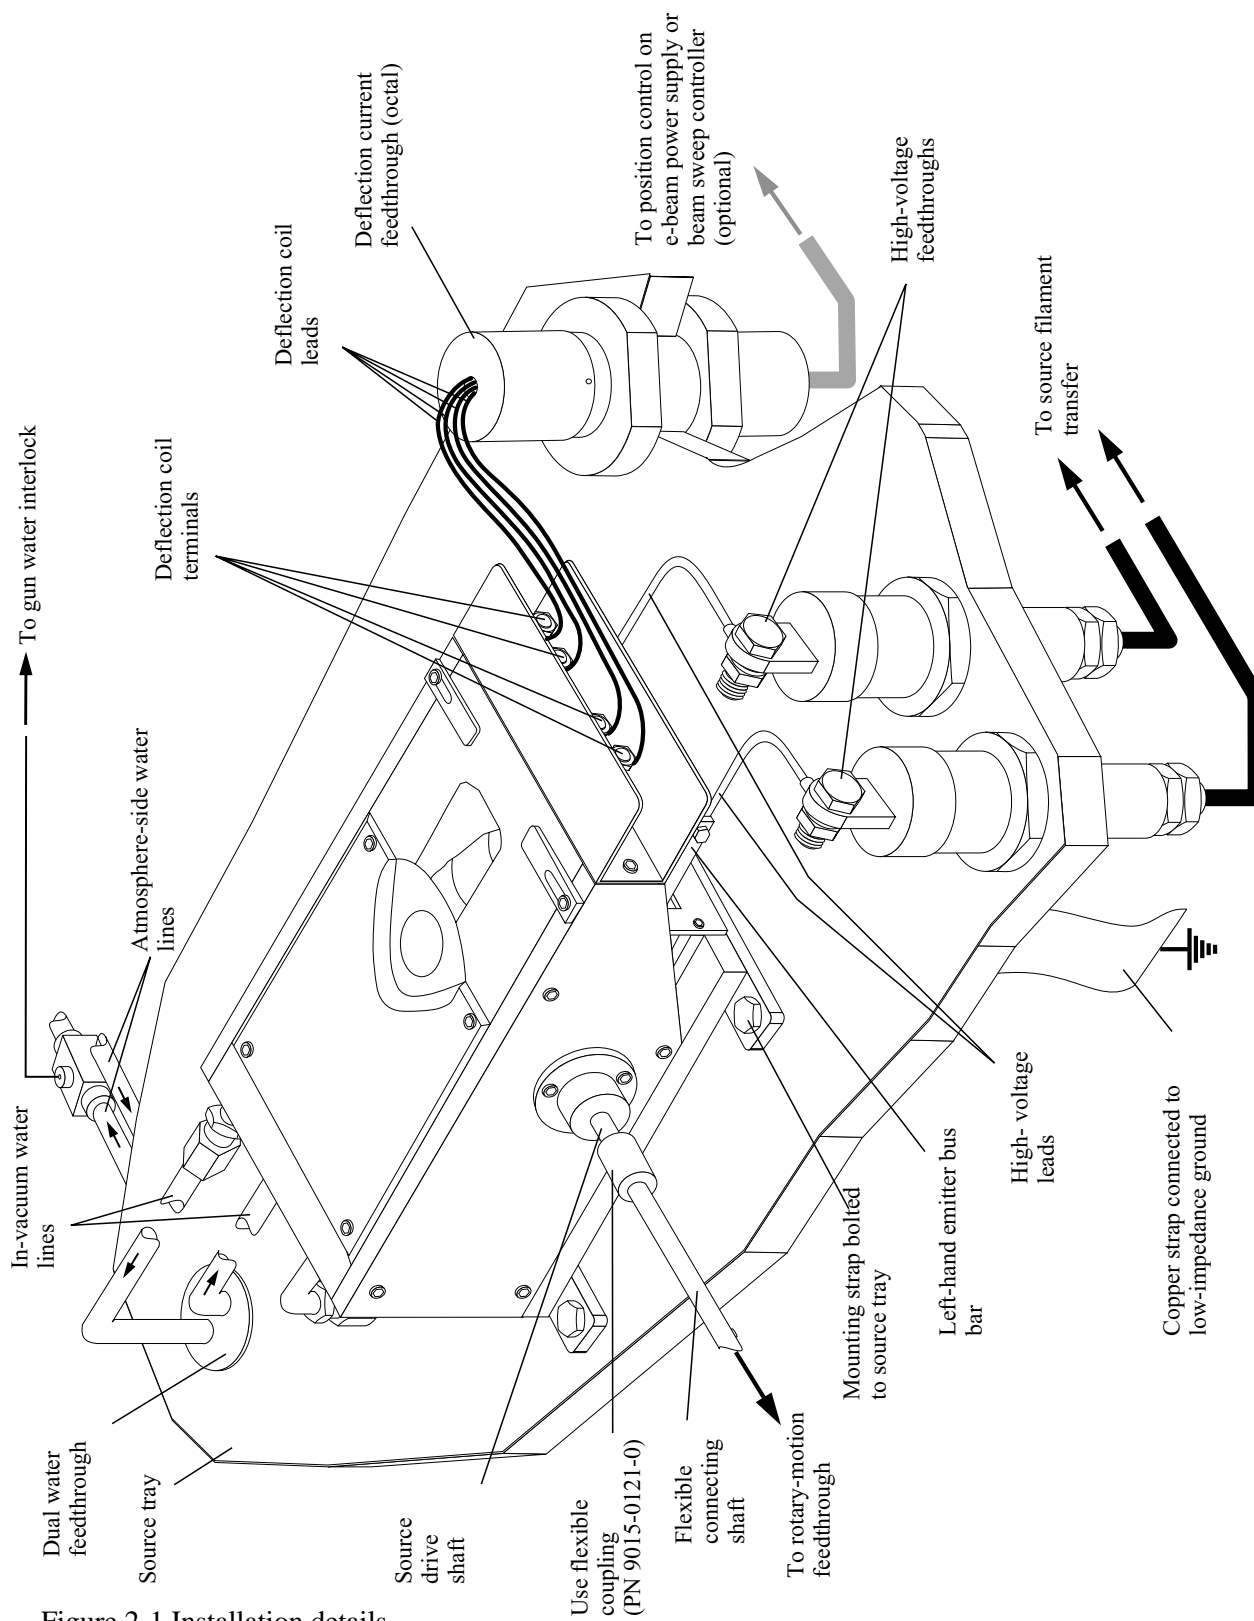

Figure 2-1. Installation details
Follow the procedures described below and refer to Figure 2-1 in installing the source.
Next determine where the feedthroughs will be mounted, as their placement depends on where the source is mounted. The water feedthrough should be somewhere behind the source. The high-voltage feedthroughs should be mounted beside each other somewhere in front of the source, or perhaps slightly off to one side, as shown in Figure 2-1. The octal feedthrough should be mounted off to the other side of the source, ideally as far from the high-voltage feedthroughs as possible. Do NOT mount all three electrical feedthroughs in front of the source, with the octal feedthrough positioned between the two high-voltage feedthroughs. This mounting arrangement makes it impossible to isolate the coil-current leads from the effects of the high-voltage. It is critical to provide this protection for the deflection coil leads. This can be accomplished simply by mounting the octal so that the deflection coil leads run along the lower lip of the coil shield and toward the side of the gun opposite the high-voltage feedthroughs, as shown in Figure 2-1. With the leads routed this way, the coil shield provides adequate isolation from the high voltage. If the coil shield cannot be used to provide the required isolation, it will be necessary to install a stainless steel high-voltage shield like the one shown in Figure 2-2.
To ensure proper cooling, the water lines MUST be connected as shown in Figure 2-1, with the supply line connected to the gun's lower external water junction and the return line connected to the gun's upper external water junction. The crucible will not be cooled adequately if these connections are reversed.
- 2 Connect the gun's drive shaft to the rotary feedthrough's output (i.e., vacuum-side) shaft. On side-drive sources, you may need to add an extension shaft like that shown in Figure 2-1 between the gun's drive shaft and the rotary feedthrough. Connecting a side-drive source to a rotary feedthrough mounted in the source tray will require a right-angle coupling. In all other cases, use a flexible in-line coupling (PN 9015-0121-0) to connect the shafts.